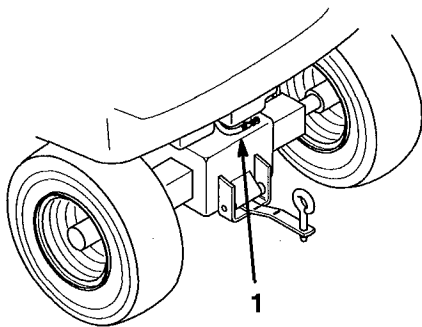

Figure 31
2. Close fuel shut-off valve at fuel tank (Fig. 31).
7. Open fuel shut-off valve at fuel tank (Fig. 31).